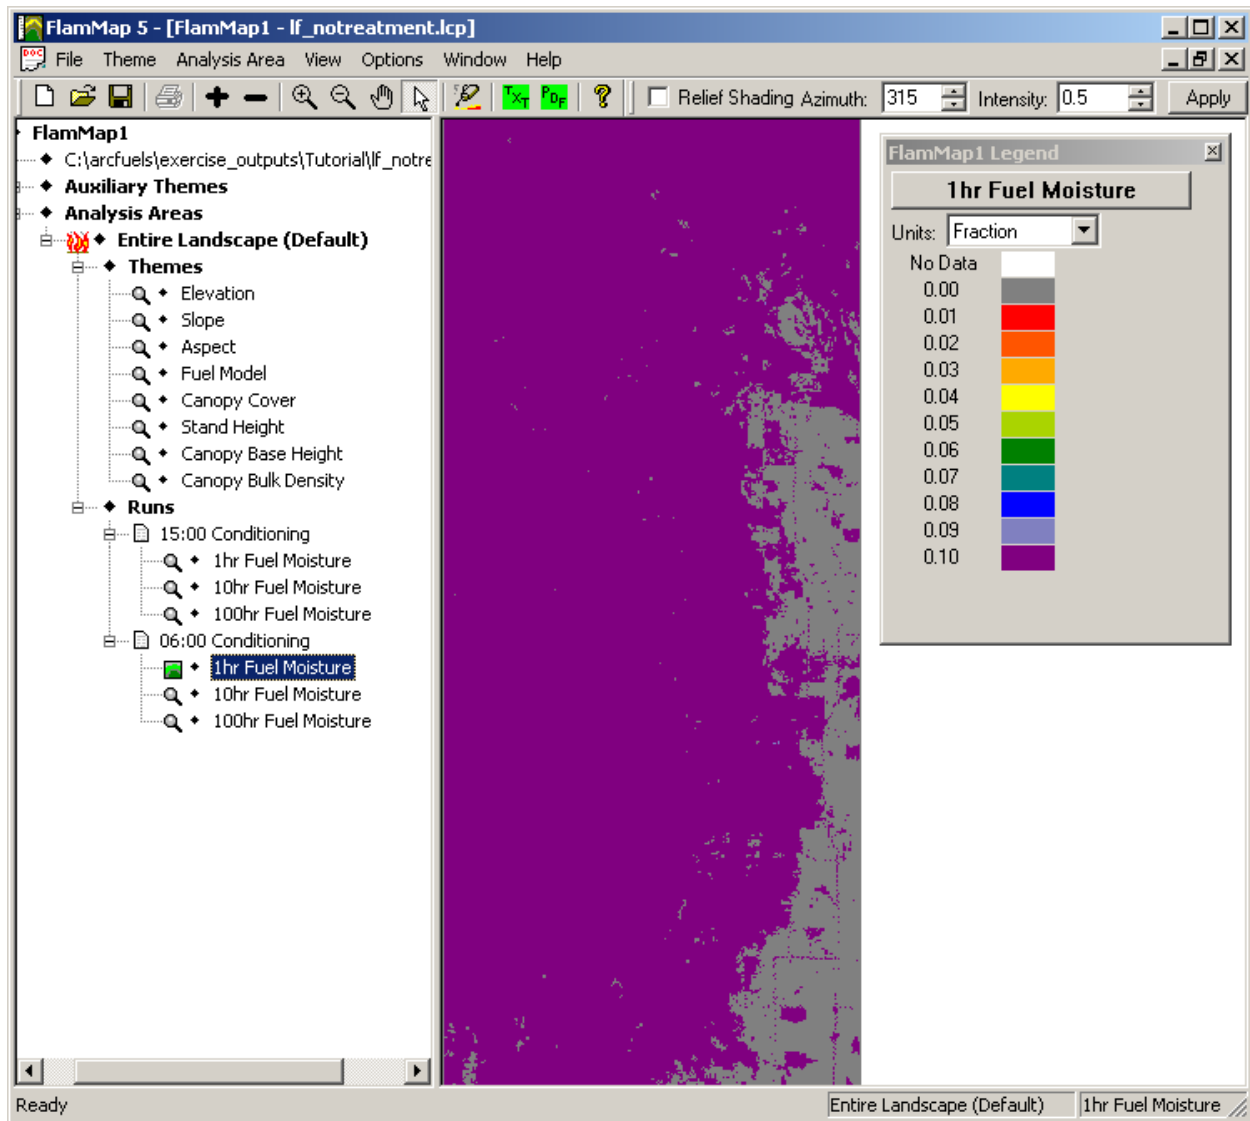

Figure 4-25—One-hour fuel moisture values after conditioning for 06:00 AM.
- 9) Under the **Runs** section, expand the **06:00 Conditioning** run in the tree pane (fig. 4-25). Display the **1hr Fuel Moisture** theme, and open the legend if you closed it. All of the values are greater than 10%. Look at the 10-hr and 100-hr fuel moistures themes as well.